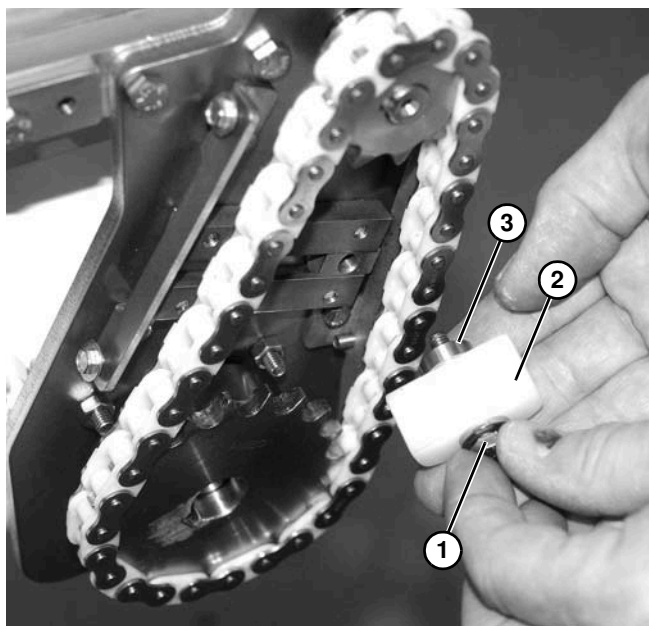

Figure 42
- Install screw and washer (**Figure 42, item 1**), timing chain tensioner (**Figure 42, item 2**), and spacer (**Figure 42, item 3**) onto drive mounting bracket.